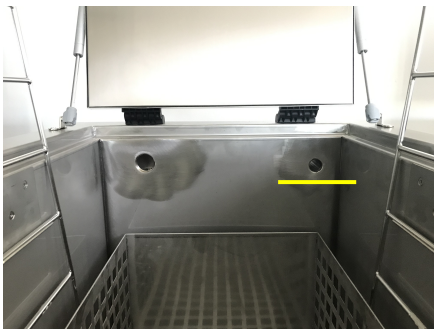

fig. 3
- 1 Put the water in the tank, opening the tap of the water network connected to the machine. Fill the tank up to the recommended level 2 cm below the overflow hole. (see fig. 3)